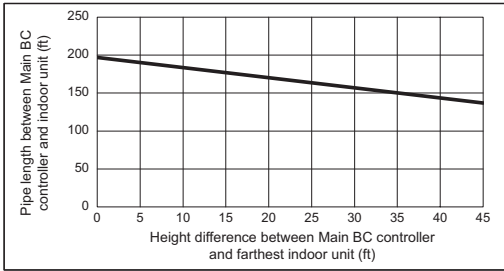

Fig. 2
*2. Details refer to Fig. 2.
*9. When the piping length or the vertical separation exceeds the limit specified in Fig. 2, connect a sub BC to the system. The restriction for a system with a sub BC connection is shown in Fig. 3.
When using indoor models M54 or larger, the restrictions shown in Fig. 2 cannot be exceeded.
*9. When the piping length or the vertical separation exceeds the limit specified in Fig. 2, connect a sub BC to the system.